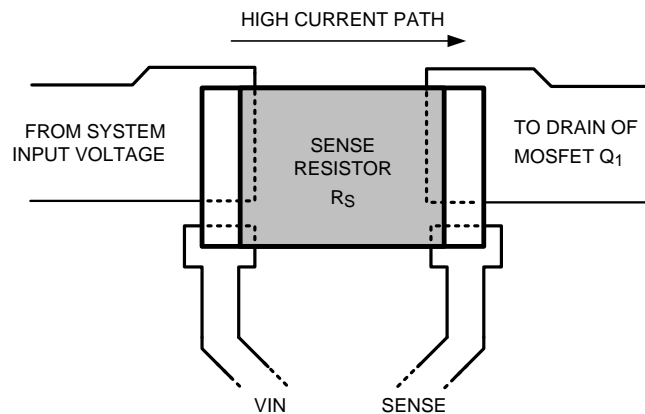

Figure 57. Sense Resistor Connections
- The sense resistor (RS) should be placed close to the LM25066A. In particular, the trace to the VIN pin should be made as low resistance as practical to ensure maximum current and power measurement accuracy. Connect RS using the Kelvin techniques shown in Figure 57.